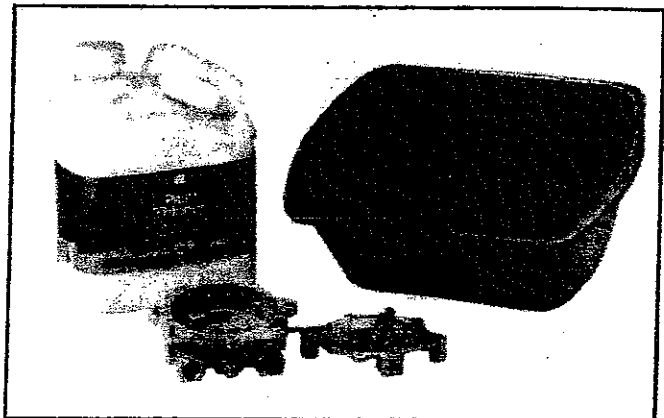

Figure 5A-31.
- Install the secondary valve seat. Torque to 4.8 N·m (43 in. lbs.). See Figure 5A-32.